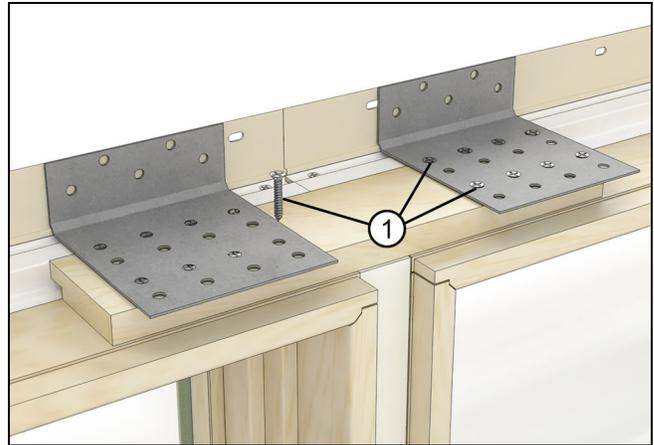

Figure 2
2. Attach the mull clip with eight #8 x 1 1/4" (32) Phillips flat head screws (casement/awning/polygon) or eight #7 x 5/8" (16) screws (ELIFD). See Figure 2.